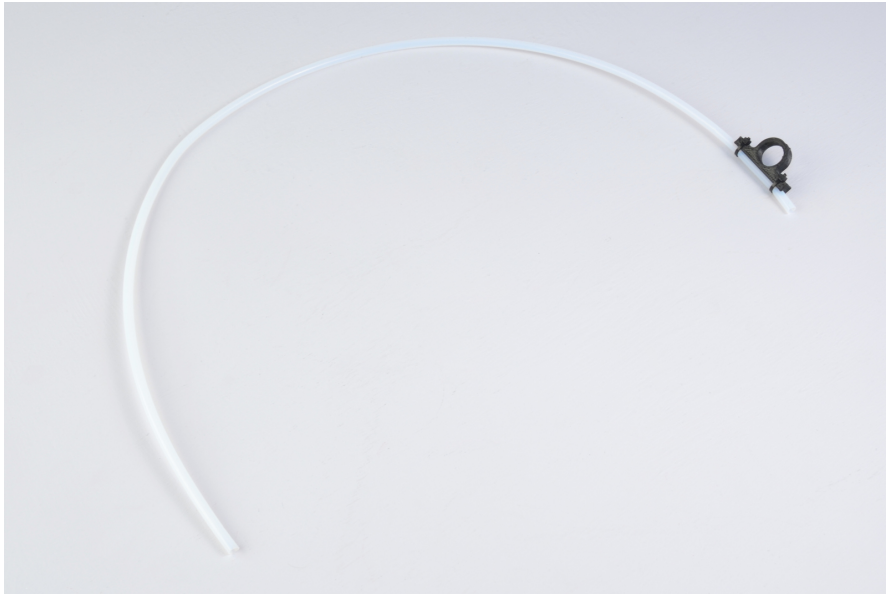
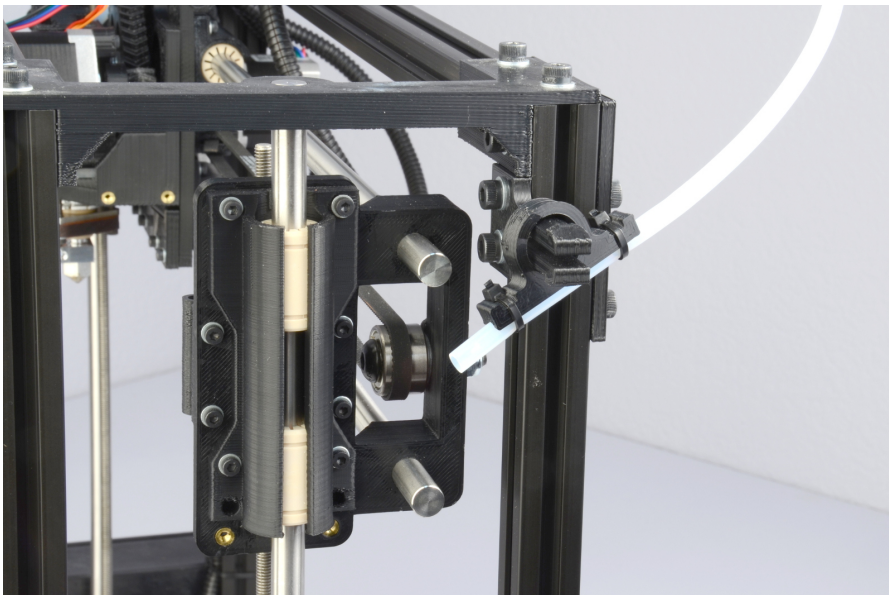

Figure 1.13: Filament Guide
Figure 1.14: Filament Guide Setting
12. Locate the filament guide with attached PTFE tube (Fig. 1.13, page 23). The filament guide attaches to the filament guide mount which can be found on the top right side of the printer frame. The filament guide easily pops on to the guide mount as shown in figure 1.14 (pg. 23).